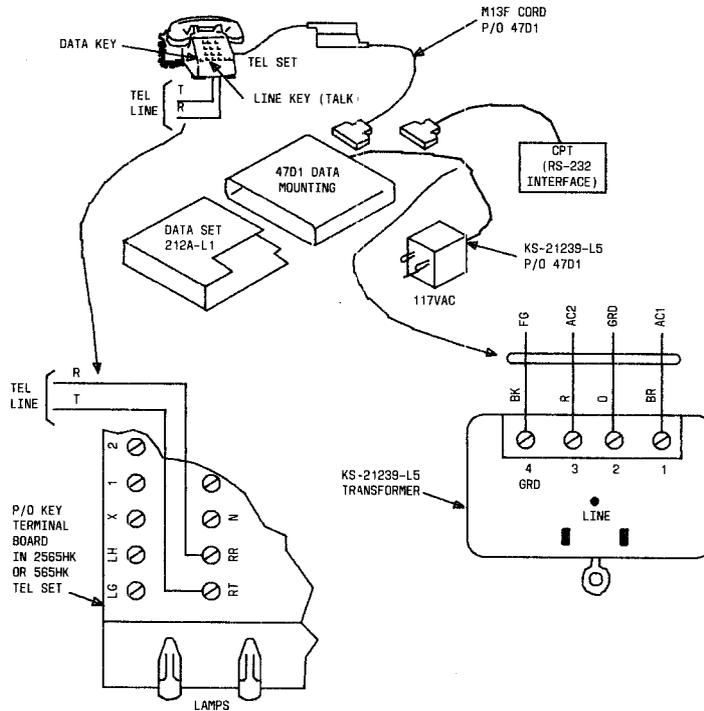
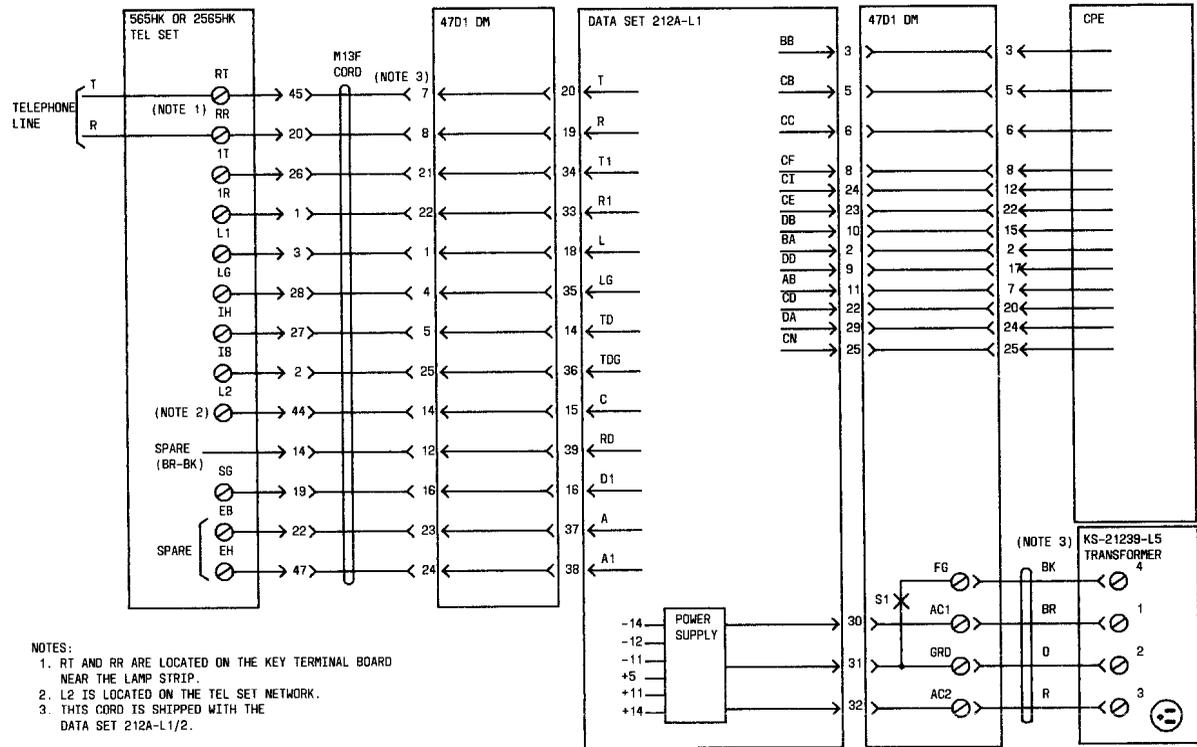

Fig. 4—Installation of DS 212A-L1/2 Without an ACU
Fig. 5—Connection Wiring for DS 212A-L1/2 Without an ACU
4.04 DS 212A-L1A/2A Without Automatic Calling Unit (ACU): When a single DS 212A-L1A/2A is installed without an ACU, connect cables and connect tip and ring as shown in Fig. 4. Figure 5 provides detailed wiring which may be useful in troubleshooting this arrangement.